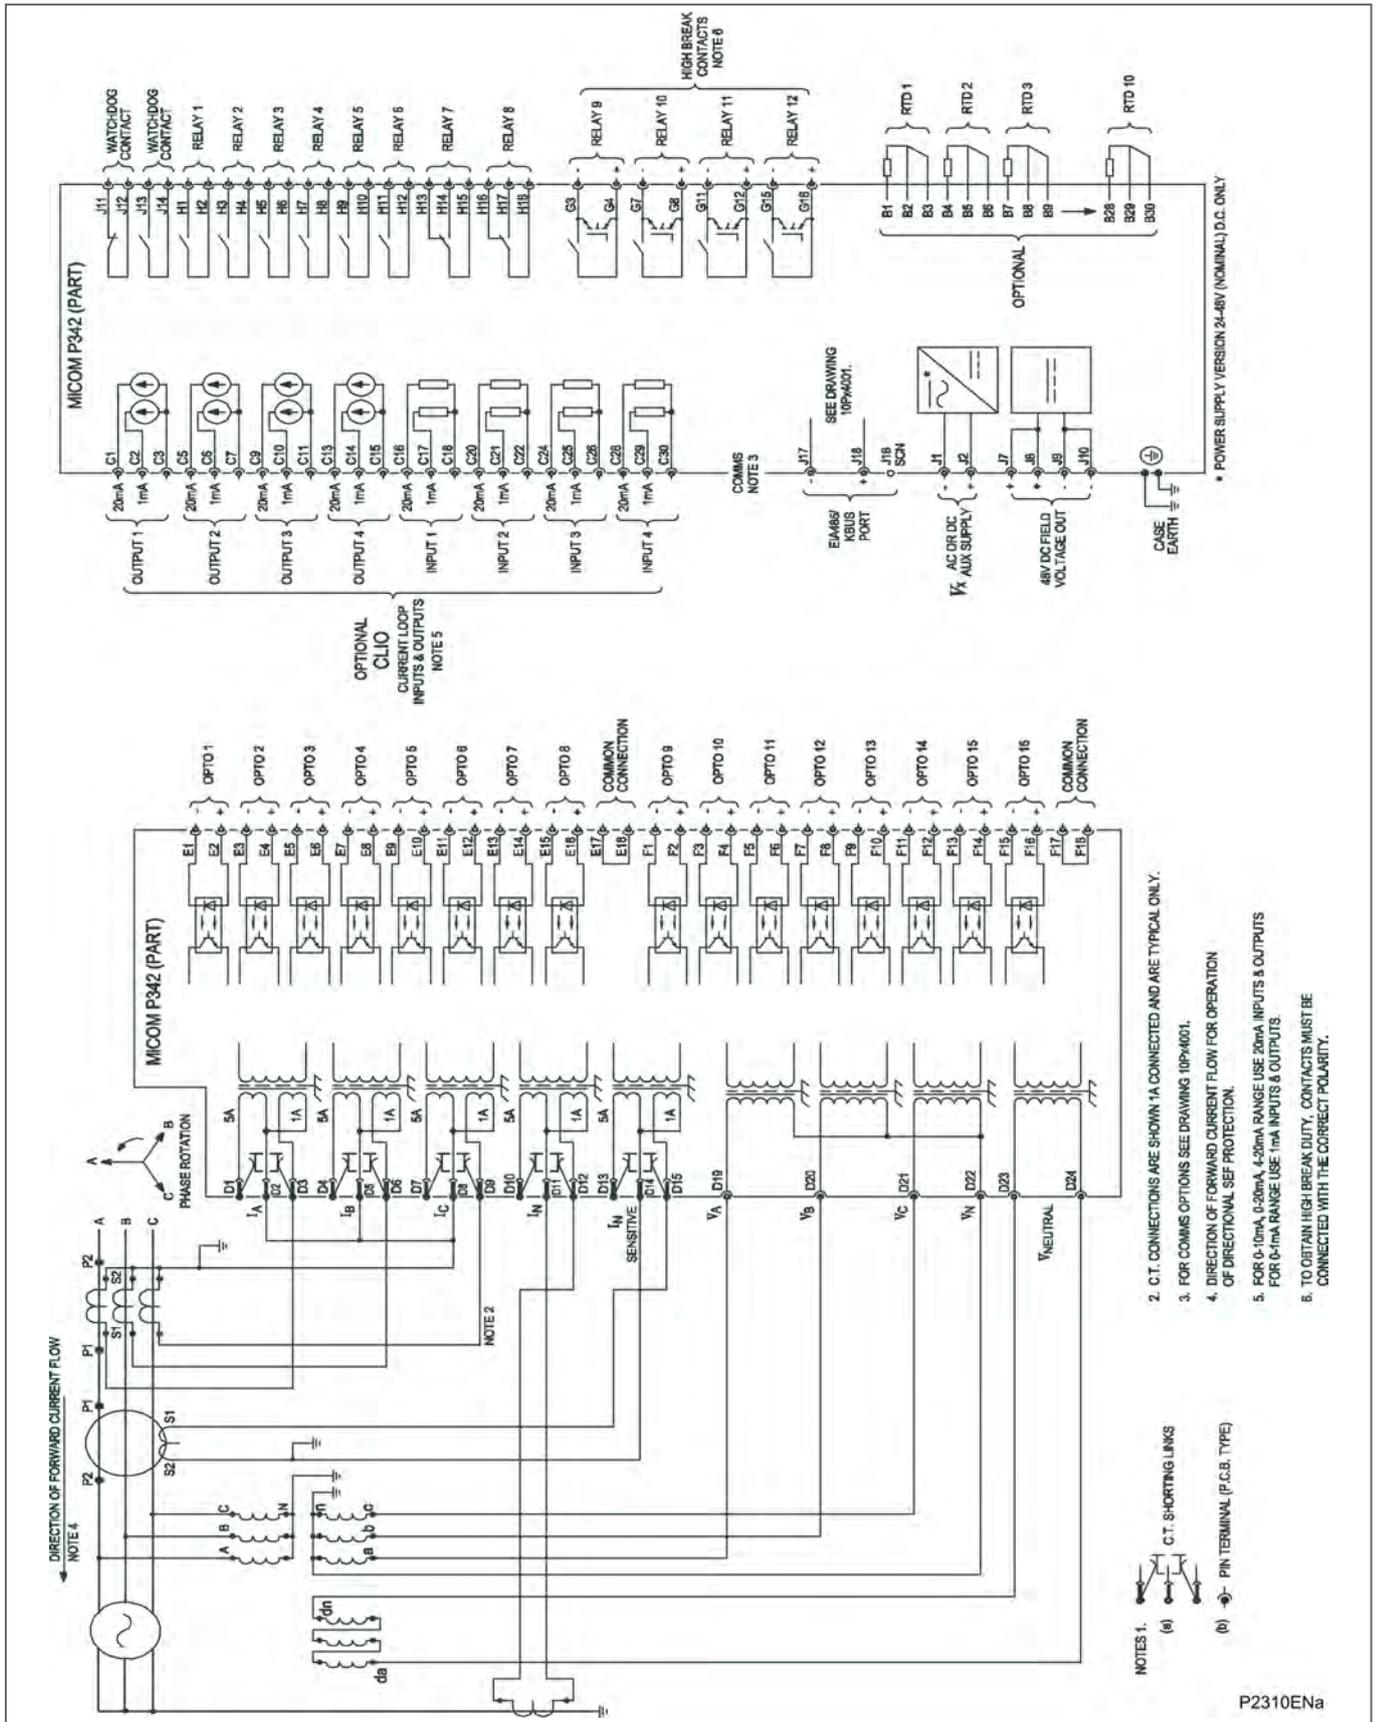

Figure 52 - P342 (60TE) for small generator (16 I/P & 12 O/P (4HB) & RTDs & CLIO)
- Figure 52 - P342 (60TE) for small generator (16 I/P & 12 O/P (4HB) & RTDs & CLIO)